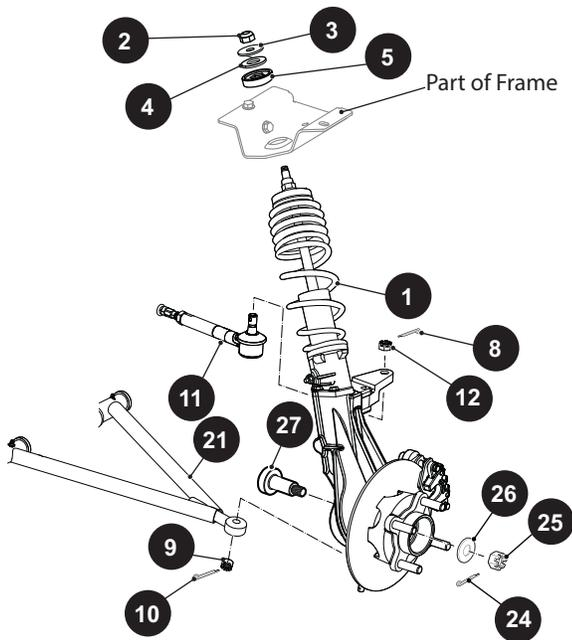
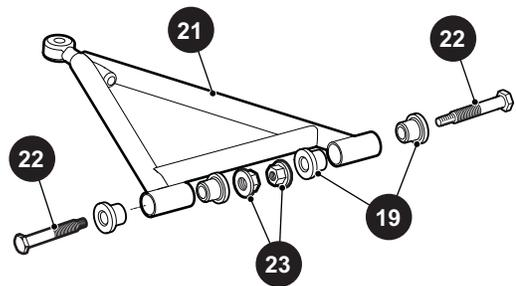

Fig. 1 Front Suspension
Fig. 2 Control Arm
4. Remove the cotter pin (8) and castellated nut (12) at the end of the steering rack assembly (11) (Ref. Fig. 1).
5. Remove the cotter pin (24), castellated nut (25), and flat washer (26) from the axle (27).
6. Remove the cotter pin (10) and nut (9) from the bottom of the front strut assembly (1) at the control arm assembly (21).
8. Remove the front axle (27) from the front strut assembly.
9. Remove the nut (2), washers (3, 4), and strut bushing (5) that secures the top of the strut assembly (1) to the vehicle frame.
- Remove the cotter pin (10) and castellated nut (9) from the lower ball joint at the control arm assembly (21) (Ref. Fig. 1).
- If necessary, use a ball joint separator to separate the control arm (21) from the strut assembly (1).
- Remove the bolt (22), flanged bushings (19), and lock nuts (23)
- To remove the control arm (21) from the vehicle (Ref. Fig. 2).